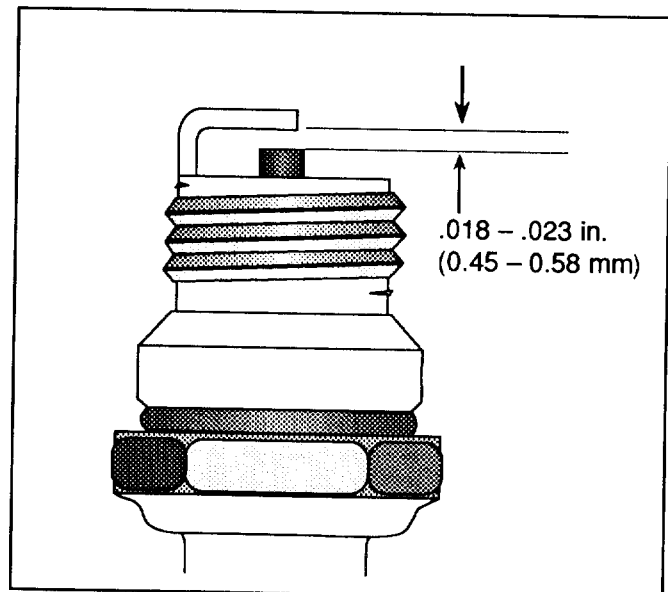

Fig. 26
3. Set air gap at .018 – .023 in. (0.45 – 0.58 mm) (Fig. 26). Install correctly gapped spark plug and gasket seal. Tighten plug firmly to 110-120 in.lb (12.4-13.6 Nm).